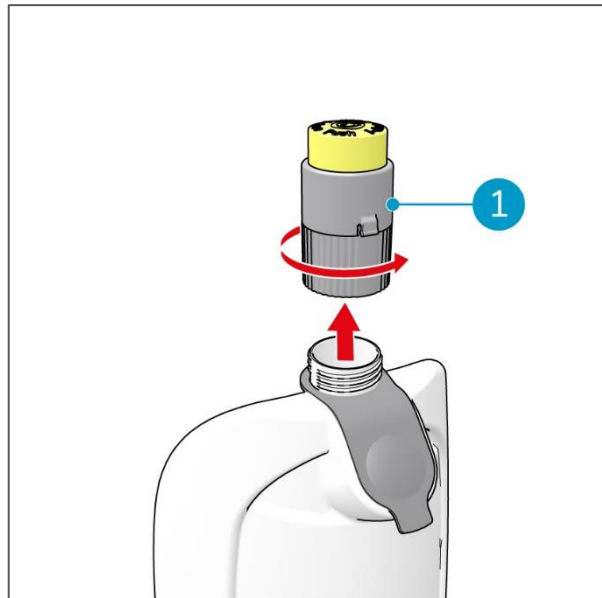

Figure 14
1. Turn the injector (Figure 14, pos 1) counterclockwise to remove it from the solution tank.